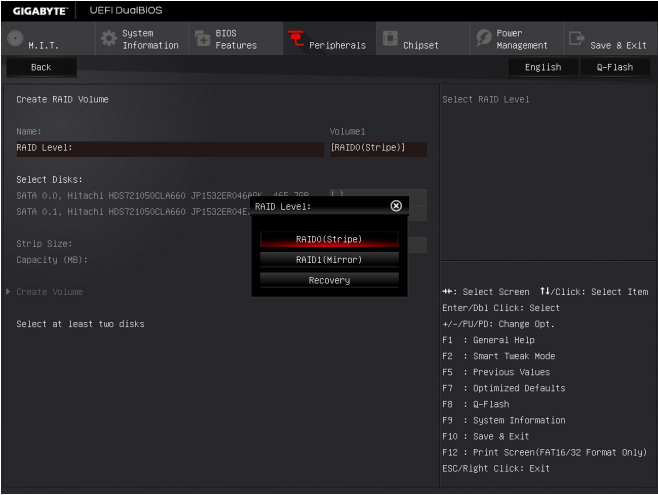

Figure 4
On the **Intel(R) Rapid Storage Technology** menu, press <Enter> on **Create RAID Volume** to enter the **Create RAID Volume** screen. Enter a volume name with 1~16 letters (letters cannot be special characters) under the **Name** item and press <Enter>. Then, select a RAID level (Figure 4). RAID levels supported include RAID 0, RAID 1, RAID 10, and RAID 5 (the selections available depend on the number of the hard drives being installed). Next, use the down arrow key to move to **Select Disks**.